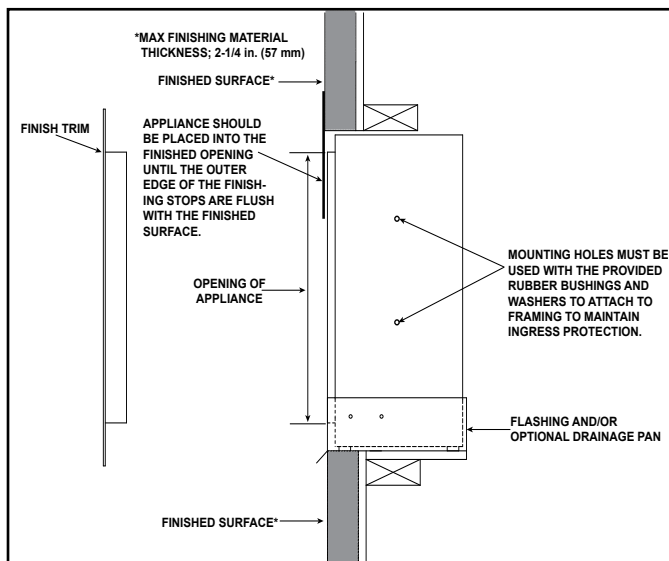

Figure 4.8 Finishing Around a Recessed Appliance
3. For recessed installations using the Front Trim, the appliance should be pushed into the finished opening until the outer edge of the finishing stops are flush with the finished surface. See Figure 4.8.